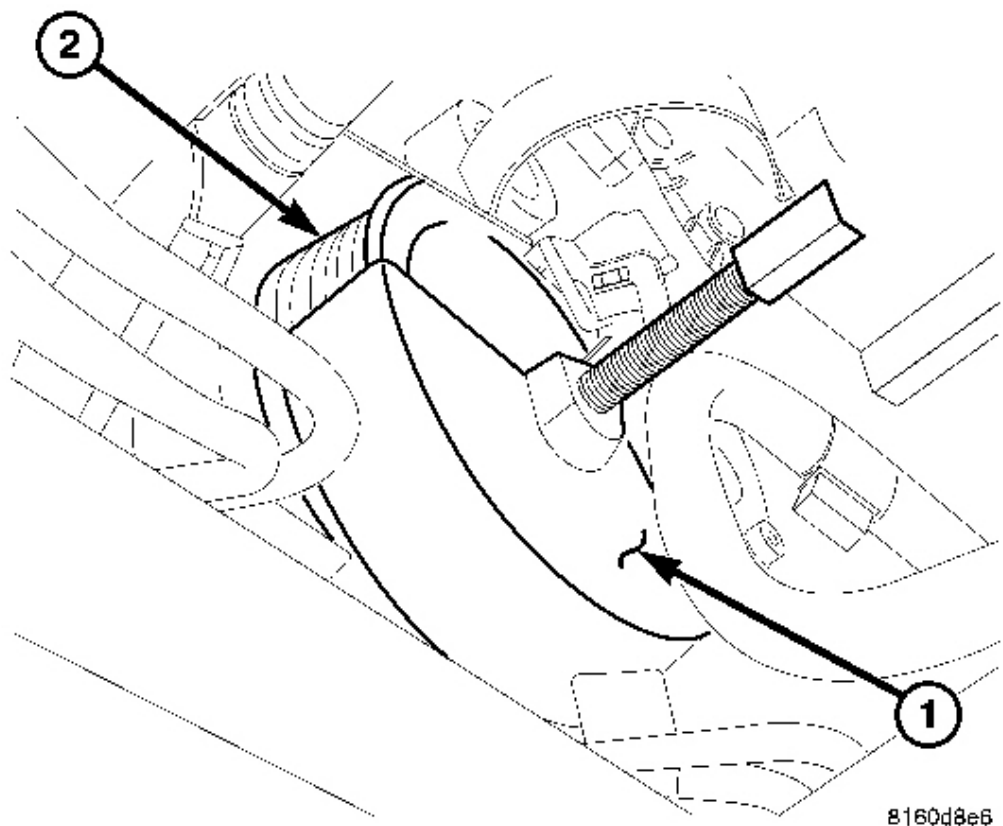

Fig. 312: Special Tool #9544 & Vibration Damper
8. Remove the vibration damper (2) bolt.
9. Install special tool #9544 vibration damper puller (1). See **Fig. 312**.